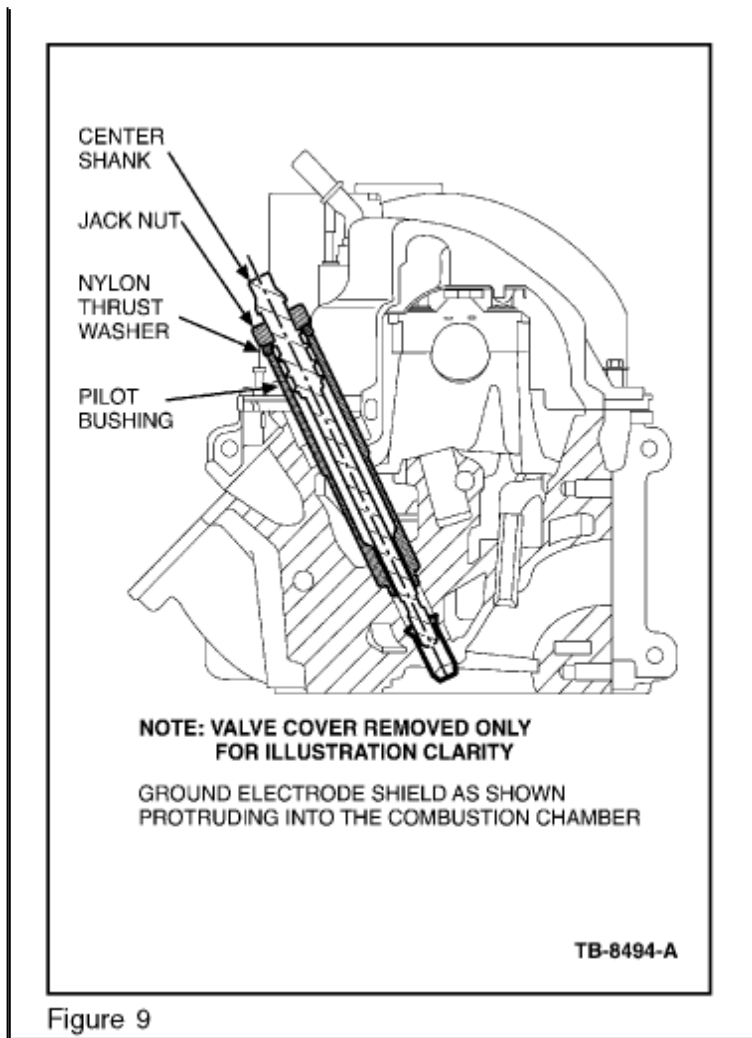

Figure 9
4. Thread Rotunda special service tool 303-1203 into the ground electrode shield. (Figure 9)
10. Leave the pin fully inserted in the porcelain while the adhesive cures. Replace the steel tool pilot with the aluminum alignment sleeve (G), Figure 9, to support the threaded rod while the adhesive cures if additional porcelain fragments are present in other cylinders. (Figure 19).
11. Allow the Loctite(R) 638(TM) to cure for a minimum of one hour at 70 °F (21 °C).